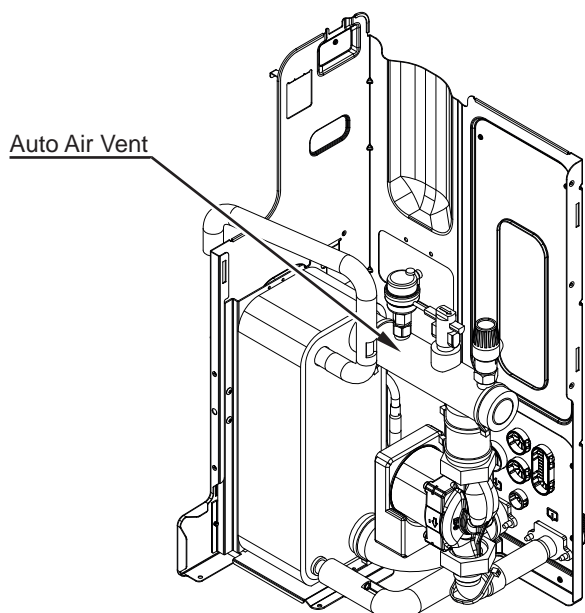

Figure 45. Auto Air Vent Dust Cap
2. Open automatic air vent dust cap. Refer to *Figure 45*.